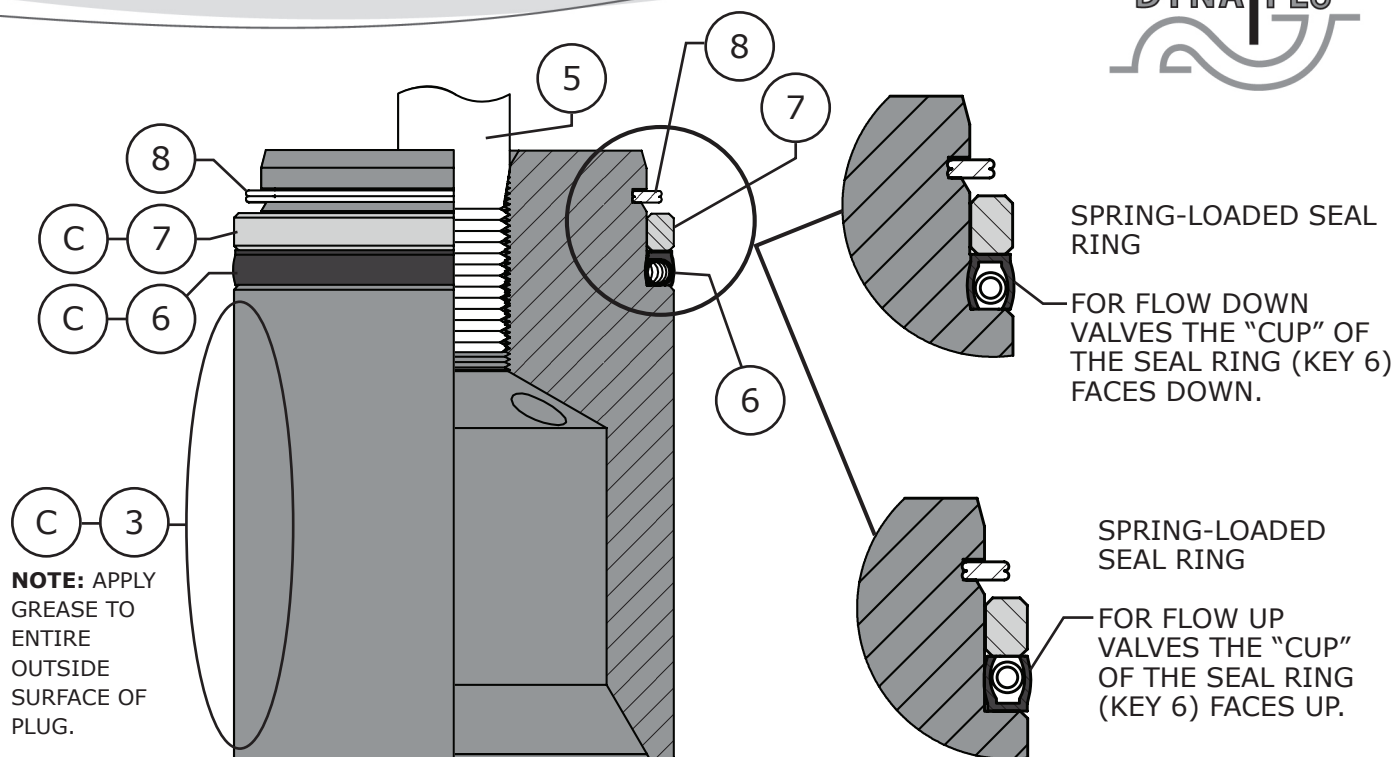

Figure 16 Model 370 Plug Seal Standard Assembly
- 2 Install the seal ring (Key 6) onto the valve plug (Key 3), refer to Figure 16 for proper seal ring orientation.
- 2 Carefully work the seal ring (Key 12) over the seat ring (Key 14) until the seal ring rests in the groove on the seat ring. The seal ring should be orientated so the open side (the cup) of the seal faces down (into the flow) for flow-up service, and faces up (into the flow) for flow-down service. Refer to Figure 16 for proper seal ring orientation. Let the spring loaded seal ring rest until the seal ring shrinks back into shape after being stretched over the seat ring. **NOTE:** If the assembly has an anti-extrusion ring (Key 46) it must be installed touching the closed side (the back) of the seal ring.